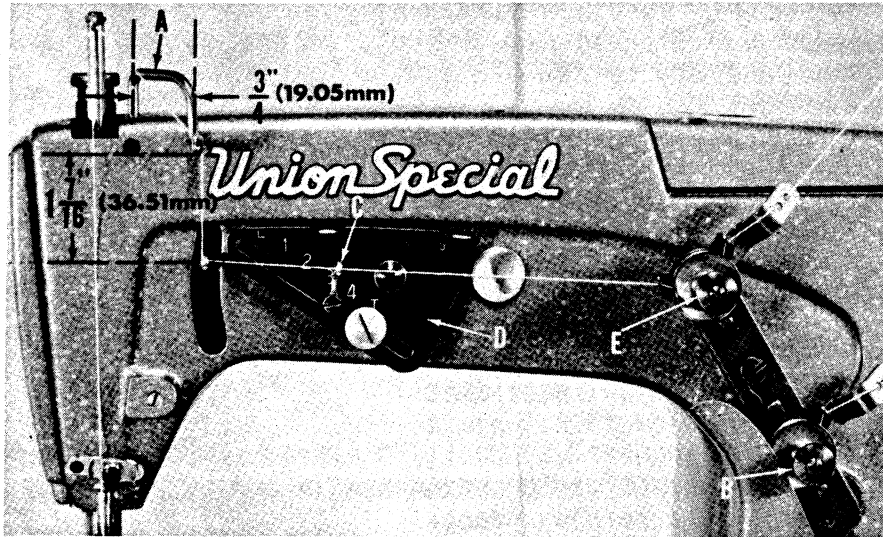

Fig. 14A
With needle bar at the top of its stroke, set needle thread take-up wire (A, Fig. 14A) so its lower extended surface is $1 \frac{7}{16}$ inch (36.5mm) above centerline of needle lever thread eyelet hole and $\frac{3}{4}$ inch (19.0mm) across the centerlines of its vertical surfaces (See Fig. 14A).
Adjust looper thread tension with nut (B, Fig. 14A) to a minimum required for controlling the looper thread (light). Set the thread index eyelet (C) at "3" on the adjusting plate (D). Changing the needle thread tension only, with nut (E), balance the stitch so that when 6 inches (152.4mm) of sewn seam are raveled back, the needle thread is approximately as long as the looper thread. A 1 inch (25.4mm) difference in lengths is permissible. NOTE: Use a sample of the material to be sewn. Maintaining this needle thread tension, move thread index eyelet (C) up to toward "L" to obtain a looser seam (longer needle loops) and toward "T" to obtain a tighter seam.